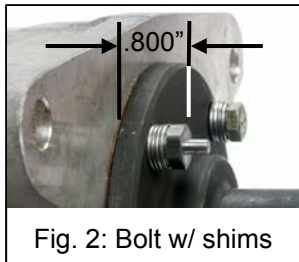
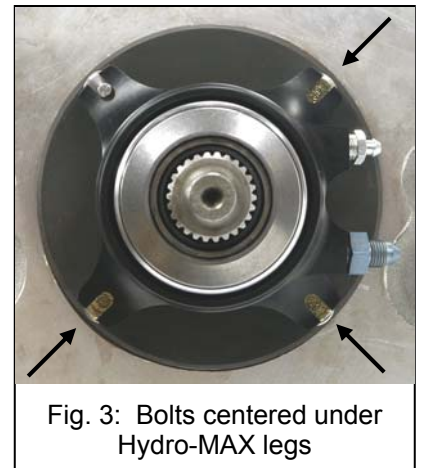

Fig. 2: Bolt w/ shims
Fig. 3: Bolts centered under Hydro-MAX legs
The bolt heads need to be approximately .800" tall when measured from the top of the bolt head, to the transmission face (see Figure 2). Between 2 & 4 washers are usually needed to get to this height. Ensure that you have the same number of washers under all four bolts. To keep the Hydro-MAX from spinning, you must select the proper size anti-spin stud (either 5/16" or 3/8", depending on your transmission's bolt size), and install it in place of one of the stock bolts. PTT recommends the use of an anaerobic thread locking compound such as Loctite® on all bolts. **NOTE:** Some transmissions do not have equally spaced bolt locations. Make sure that you install the anti-spin stud on one of the three bolts that are not rotated out of the equally spaced positions (see Figure 3). Set up your spare transmission now, as well! Hydro-MAX installation kits are available separately for this purpose. Ask for part number RH7111.
5. Change the anti-spin stud location if at least three of the four legs are not sitting exactly on the center of the bolt heads (See Figure 3).